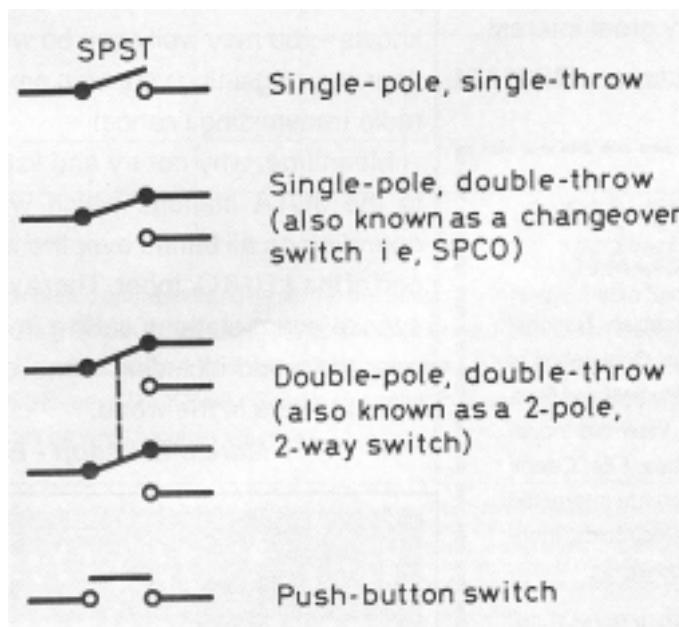

Figure 1 Some circuit symbols for different types of switch
2. **Number of poles.** A single switch can control many circuits; the number of poles tells you *how many* different circuits it can handle. See Figure 1.
3. **Number of throws.** This tells you the number of positions each pole can have. This is best illustrated in Figure 1. The simplest ON/OFF switch is a Single-Pole, Single-Throw (SPST) switch. A Single-Pole,
Double-Throw (SPDT) switch may also be used as an ON/OFF switch, but is used mainly to change between two parts of a circuit, and is commonly known as a Single-Pole Change-Over (SPCO) switch. Two or more SPCO switches can be operated at once; Figure 1 shows an example. The two switches are said to be *ganged*. See also ‘Types of switch’ below.